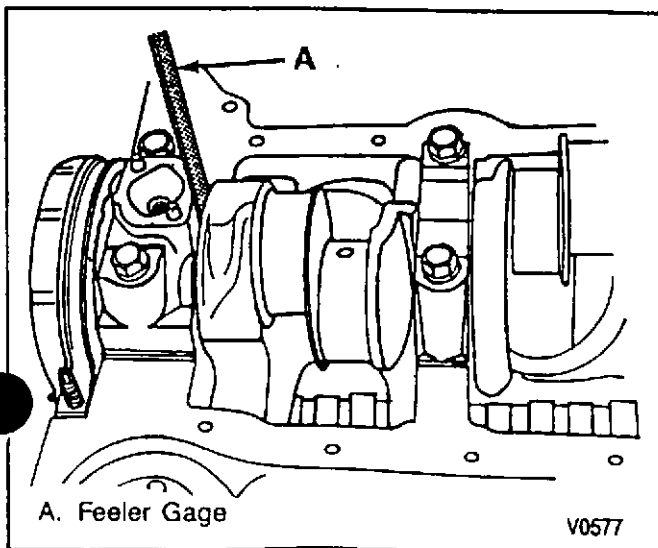

Figure 31—Measuring Crankshaft End Play
- With the crankshaft wedged forward, measure at the front end of the rear main bearing with a feeler gage (figure 31). The proper clearance is 0.051-0.152 mm (0.005 to 0.018 inch).